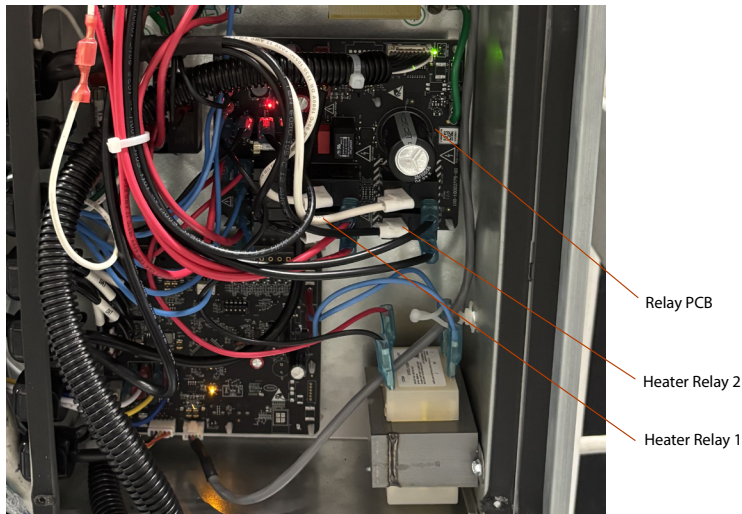

Figure 437 (Relay PCB)
2. Check for Line Voltage on heater Relay Output terminals (see figure 437)